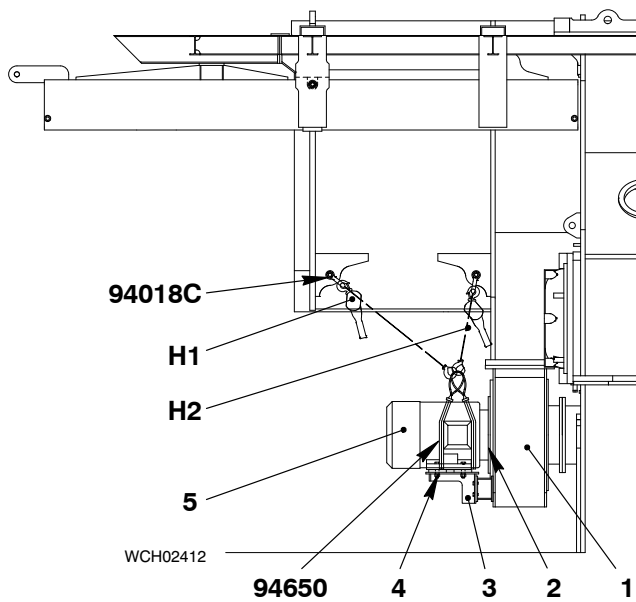

Fig. 6
- 11) Install the screws (4, Fig. 6) to the support (3).
- 12) Install the screws (2) to the casing (1).
- 13) Connect the electrical connections to the electric motor (5).